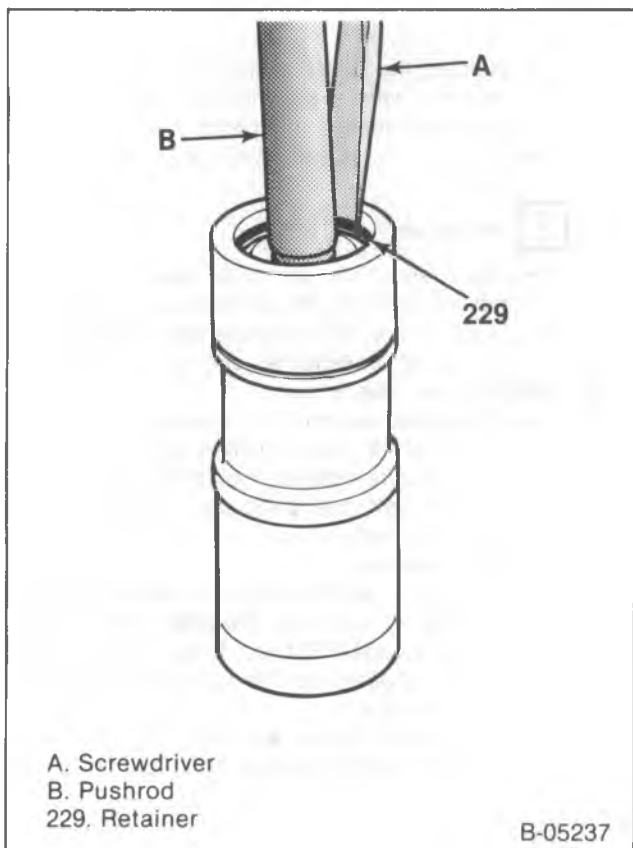

Figure 22—Flat Type Hydraulic Lifter Assembly
**Inspect (Figures 22, 23, and 24)**
- Lifter body (221) for scuffing and scoring. If the lifter body wall is worn or damaged, the mating hydraulic lifter bore in the cylinder block should also be checked.
Inspect (Figures 22, 23, and 24)
Assemble (Figures 22, 23, 24, 27, and 28)